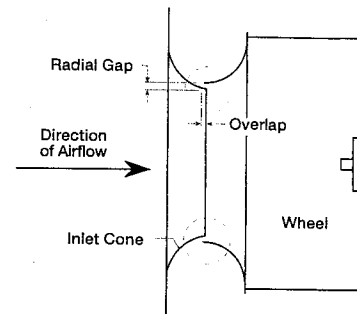

Fig. 4
2. The wheel should be aligned as shown in Fig. 4. Although the wheel position is preset and the unit is test run at the factory, movement may occur during shipment.